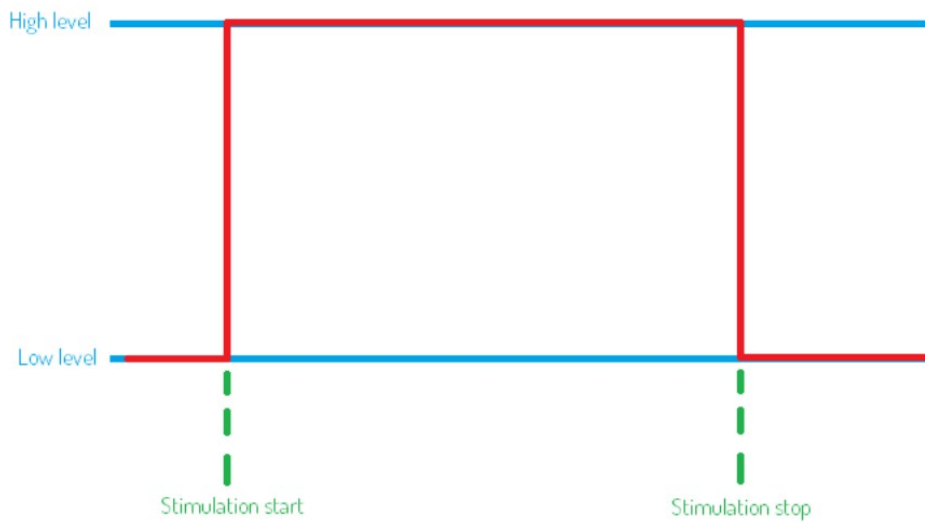

Figure 89. Trigger out setup for level high.
- Level High (LH) – Only used for signalling the following events: Start or Stop of the stimulation. When stimulation is being administered the signal level is high. When there is no stimulation the signal level is low (Figure 89)